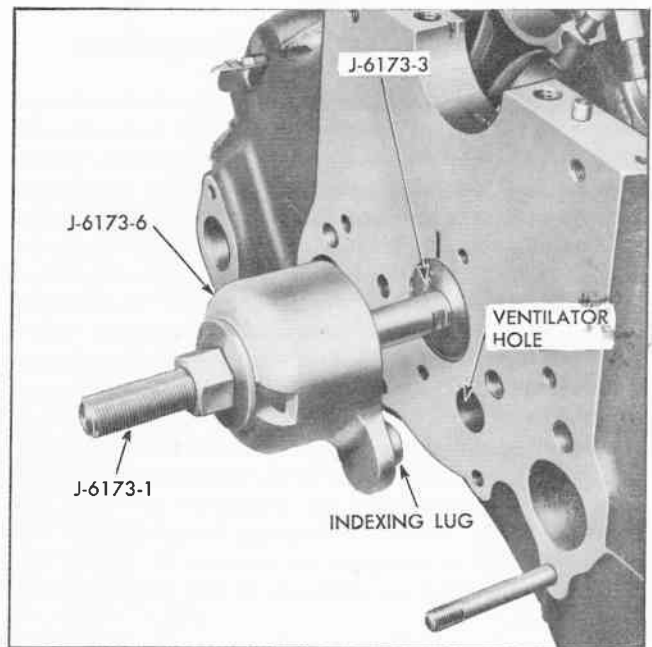

Fig. 2 Positioning Indexing Collar
4. Insert shaft and Indexing Collar through Remover and Replacer Adapters and position lug on Indexing Collar in ventilator hole in front of block (Fig. 2). This indexes the shaft so that it cannot rotate. **NOTE:** In order to more clearly show the positions of the tools in use, the pictures illustrating this procedure are taken from the bottom of the engine with the oil pan removed.
4. Insert Shaft with Indexing Collar, thrust washer, and nut through Remover Adapter, Pilot, and Replacer Adapter and index lug on Collar with ventilation hole in front of block (Fig. 2).